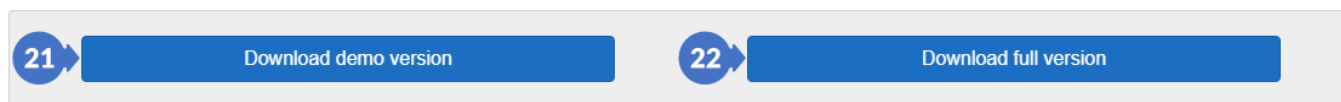
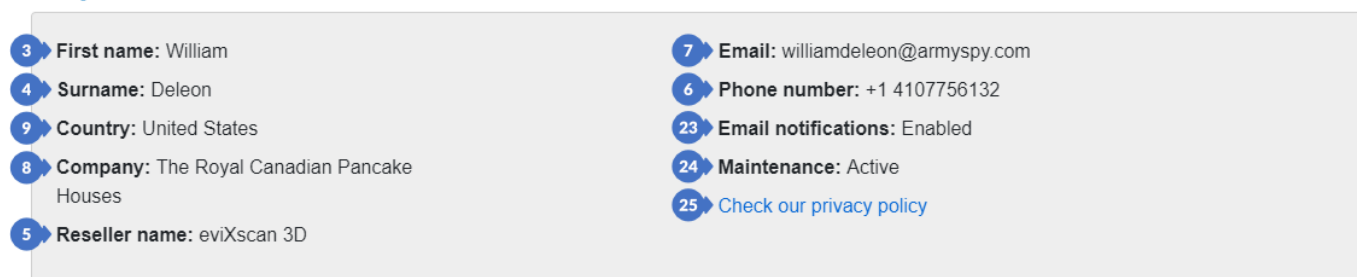

Figure 18. Download eviXscan 3D Suite category with button to download the trial or the full version
Figure 19. My account category with account details provided during the registration
You can find there the *Download eviXscan 3D Suite* category (Figure 18) with the *Download demo version* button (21) to download the test license and the *Download full version* button (22) visible only if you have an active software subscription – this is indicated by the status (*Maintenance*) (24) in Figure 19.
Installation of the software downloaded from the website using the *Download demo* (21) or *Download full* version (22) (Figure 18) is described in the earlier section.